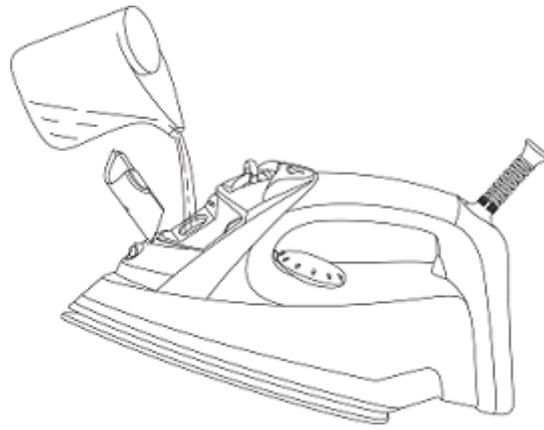

FIGURE 1
3. Open the water inlet cover as in Fig 1.